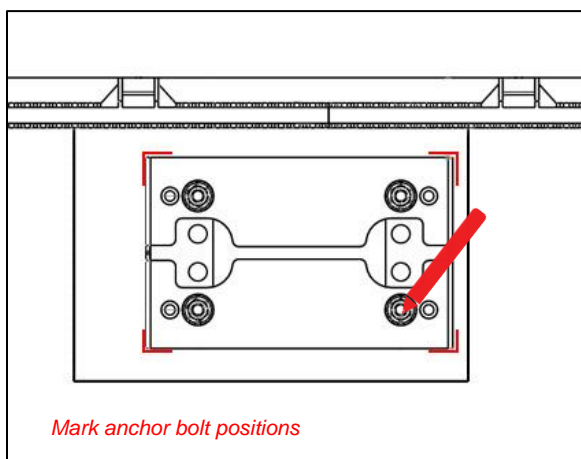

Fig 5
- Mark the (4) positions for your anchor bolts ready for drilling (refer to Fig 5).